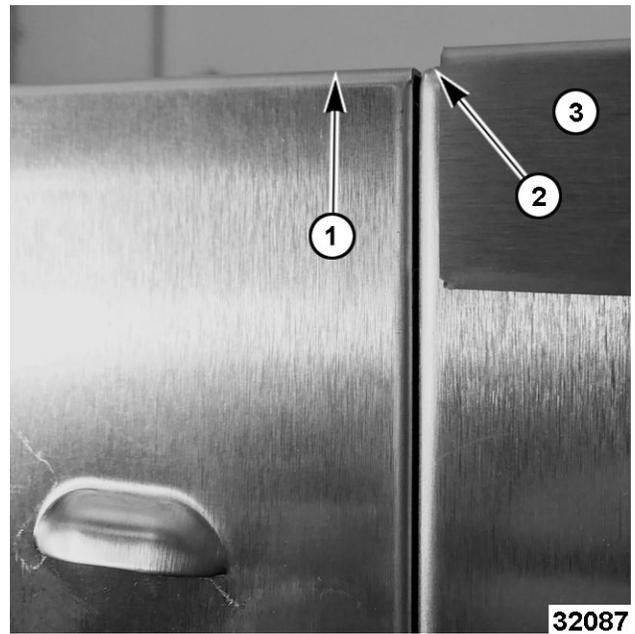

Fig. 3
1. Visually check to see if control panel (1, Fig. 3) is flush with the frame (2, Fig. 3) of the oven along the top (Fig. 2) and side. Not with the top trim (3 Fig. 3).